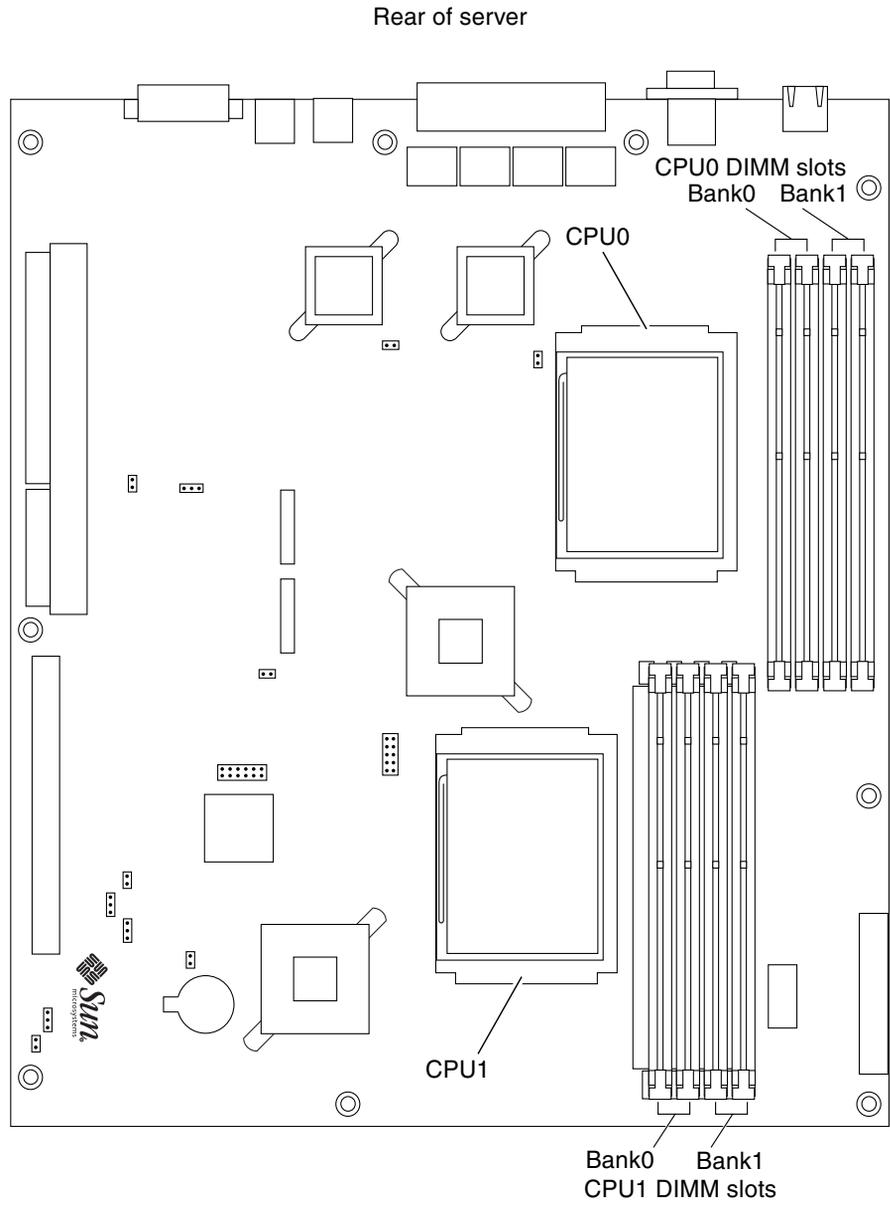

FIGURE 5-2 System Board CPUs and Corresponding Memory Locations
There are eight DIMM slots on the system board, with four DIMM slots adjacent to each CPU socket. Because memory is installed as matched DIMM pairs, these slots are divided into two DIMM banks per CPU (see FIGURE 5-2 for their locations).
- On a single-processor system board, install the first DIMM pair in the memory bank next to the CPU. For example, on a single-processor system board, the CPU is installed in the CPU0 slot. Therefore, you must install the first DIMM pair in CPU0 DIMM Bank0 (see FIGURE 5-2).
- A dual-processor system board must have a minimum of one DIMM pair installed in CPU0 DIMM Bank0 (see FIGURE 5-2).